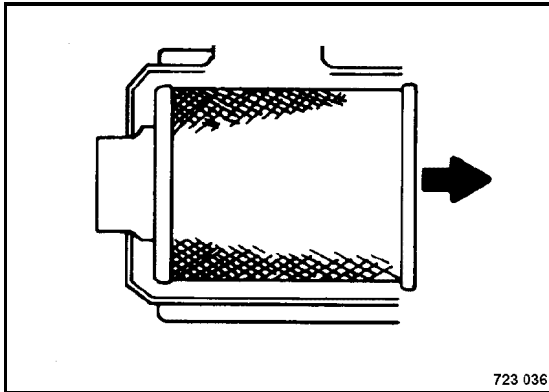

Fig. 138
- Pull the filter element (Fig. 138) carefully out of the housing.